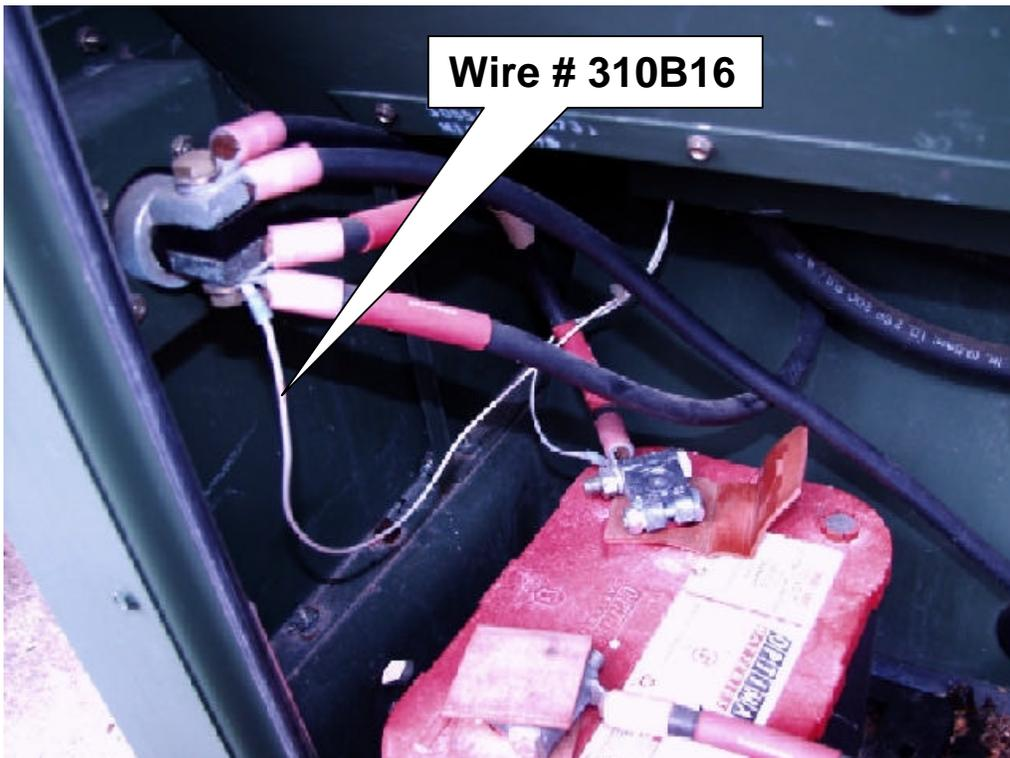

Figure 2 Battery Compartment
- 2 Remove wire # 310B16 from the positive terminal of the NATO slave receptacle (SR1) as shown in figure 2.